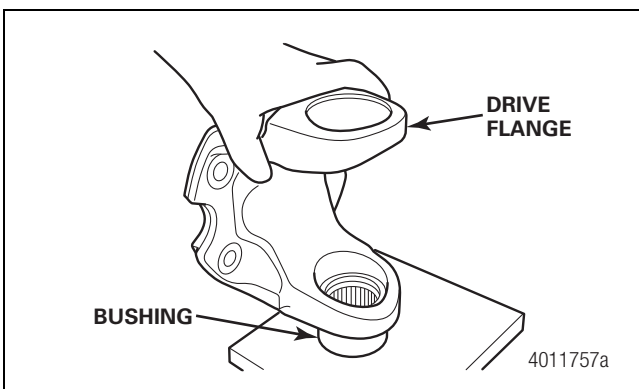

Figure 4.61
2. Insert the bushing on the bottom of the joint. Figure 4.61.